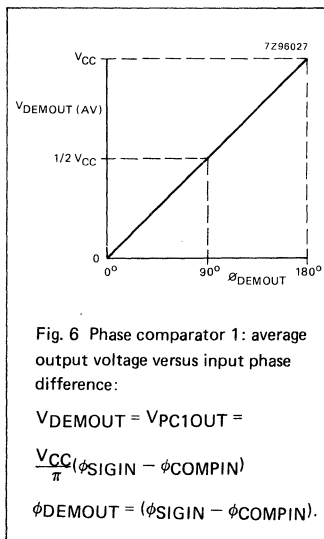

Fig. 6 Phase comparator 1: average output voltage versus input phase difference:
Fig. 6 Waveforms showing the clock ( $\overline{CP}$ ) to output ( $Q_n$ ) propagation delays, the clock pulse width, the output transition times and the maximum clock pulse frequency. Also showing the master reset (MR) pulse width, the master reset to output ( $Q_n$ ) propagation delays and the master reset to clock ( $\overline{CP}$ ) removal time.
The average output voltage from PC1, fed to the VCO input via the low-pass filter and seen at the demodulator output at pin 10 (VDEMOUT'), is the resultant of the phase differences of signals (SIGIN) and the comparator input (COMPIN) as shown in Fig. 6. The average of VDEMOUT' is equal to 1/2 VCC when there is no signal